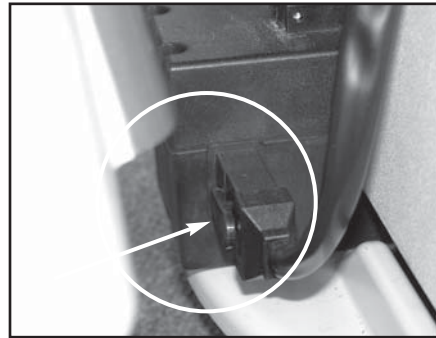

Figure 7G
1. Remove each of the battery connectors by pinching the tab on the connector at the junction box and gently pulling free (See Figure 7G, Above).